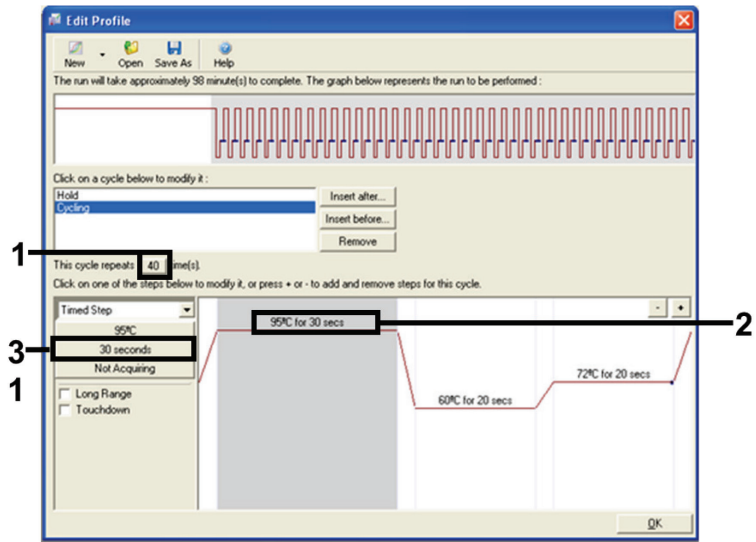

Figure 6. Cycling step at 95°C.
- Set the number of cycle repeats to **40**. Select the first step and set to **95°C for 30 seconds** (Figure 6).